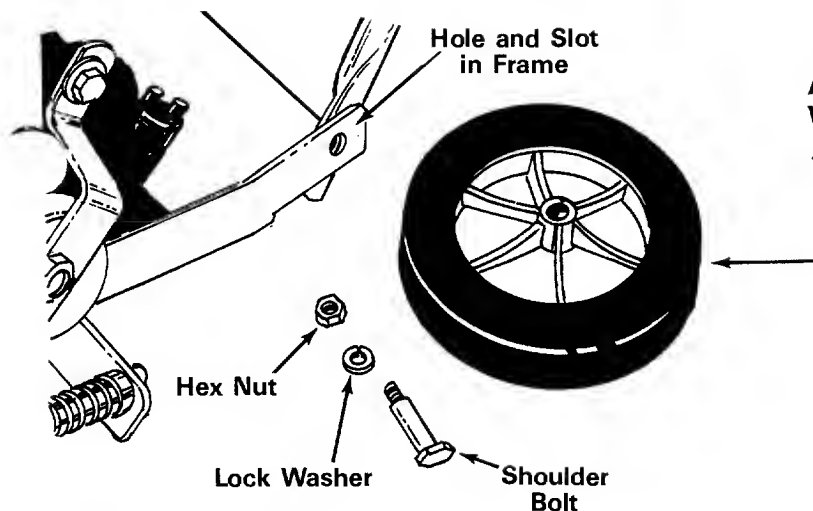

FIGURE 1
1. Line up holes in lower handle with holes in the frame. Insert axle bolt through left rear wheel (larger), and secure to frame and handle using 3/8" lock washer and hex nut. See figure 1.